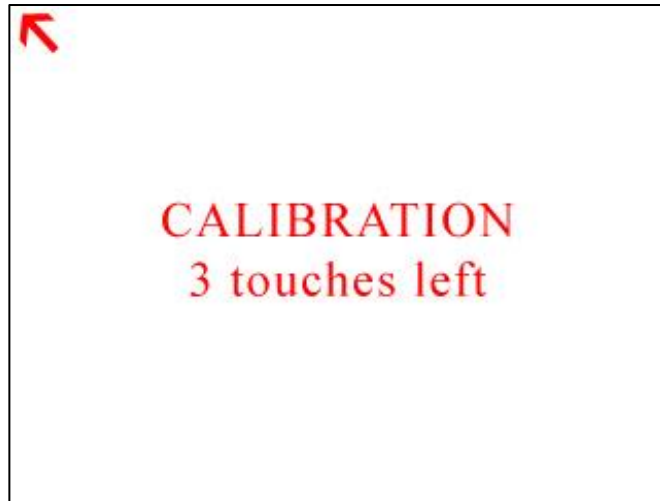

Figure 6-50 Alignment Screen 3
- The third screen displays the arrow in the upper left corner. The arrow will have to be touched three times to ensure calibration as Figure 6-50 illustrates this.